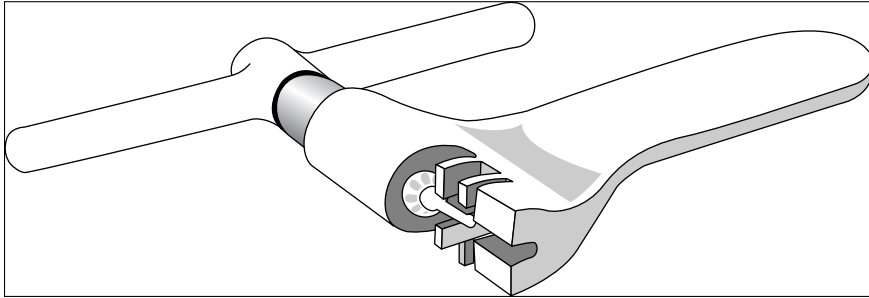

Figure 3-6:
- ✔ **Chain tool (see Figure 3-6):** If you plan on replacing or repairing a chain, you'll need this tool. It's used to break or connect a chain by pushing a pin through the chain links. Some chains, such as SRAM Master Link, do not require a chain tool to be removed and reinstalled. A chain tool is still needed for installing a new chain in order to cut it to the proper length.